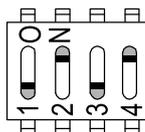

Figure 9.1 DIP Switch S1 Settings for the Self RAM Check
1. Set DIP switch S1 as shown in Figure 9.1.